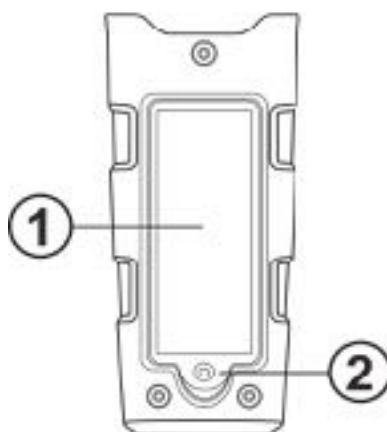

Fig. 4: Battery replacement
2. Loosen the fastening screw (see Fig. 4 – part 2) of the battery compartment cover (see Fig. 4 – part 1), remove the cover and remove the batteries.